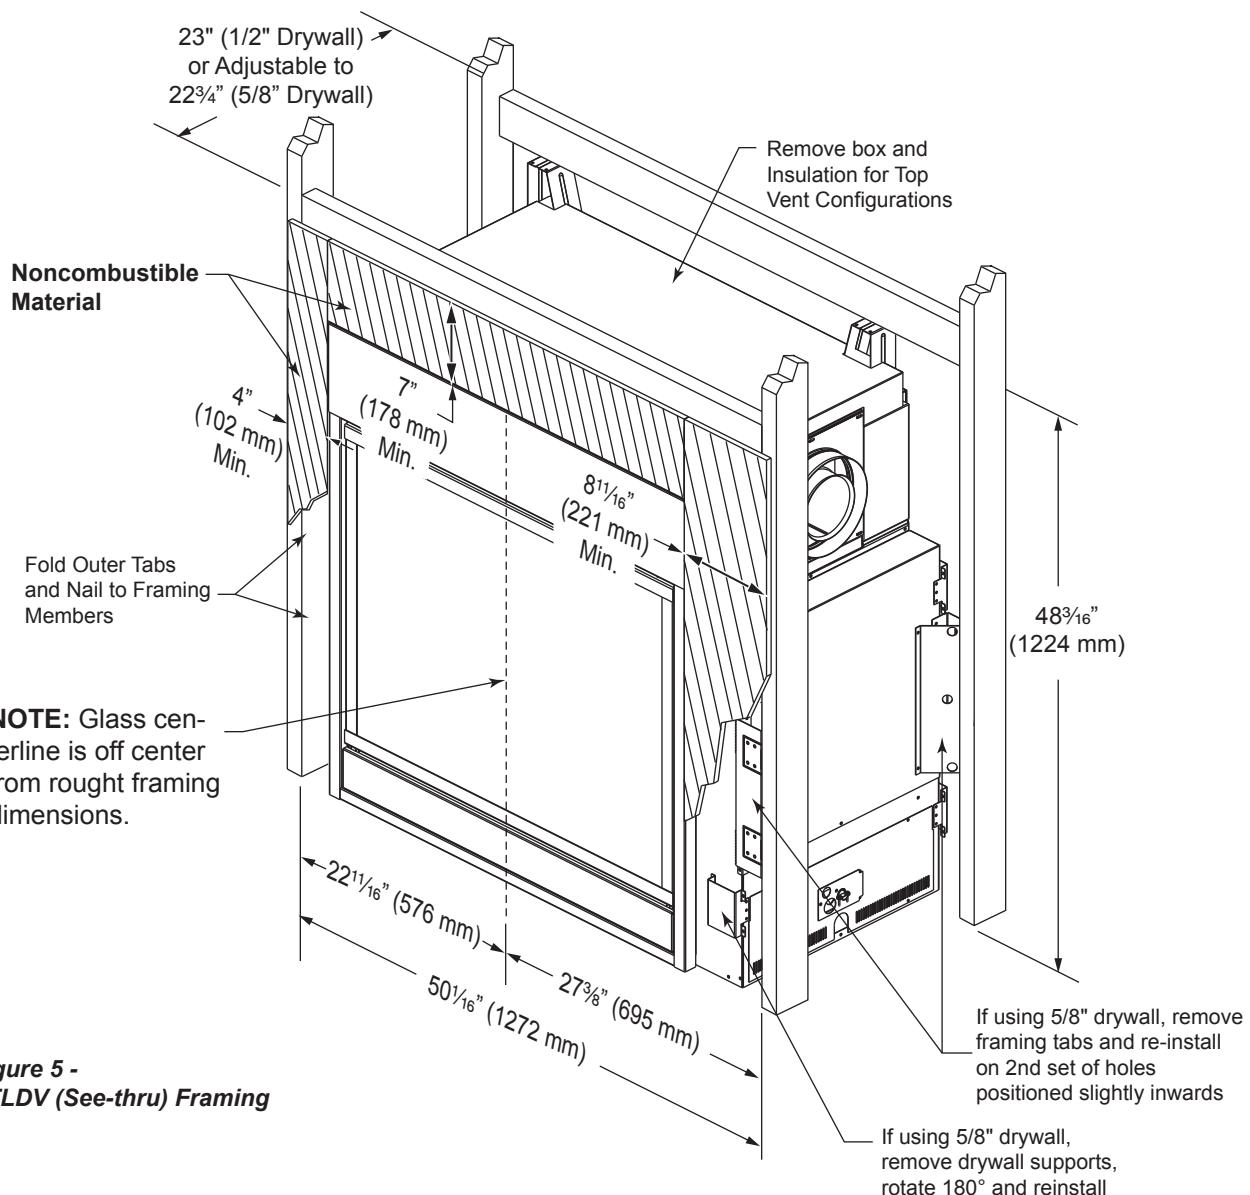

Figure 5 -
The fireplace must be secured to the floor and/or to framing studs as shown in *Figure 5*. Use four (4) wood screws or masonry/ concrete screws to secure fireplace to the floor. Use four (4) screws to attach fireplace to framing. The side brackets or nailing flanges are designed to accommodate two wall boards thicknesses, 1/2" or 5/8".
The area above and on the sides of the fireplace must be a noncombustible material. Figures 5, 6, 7